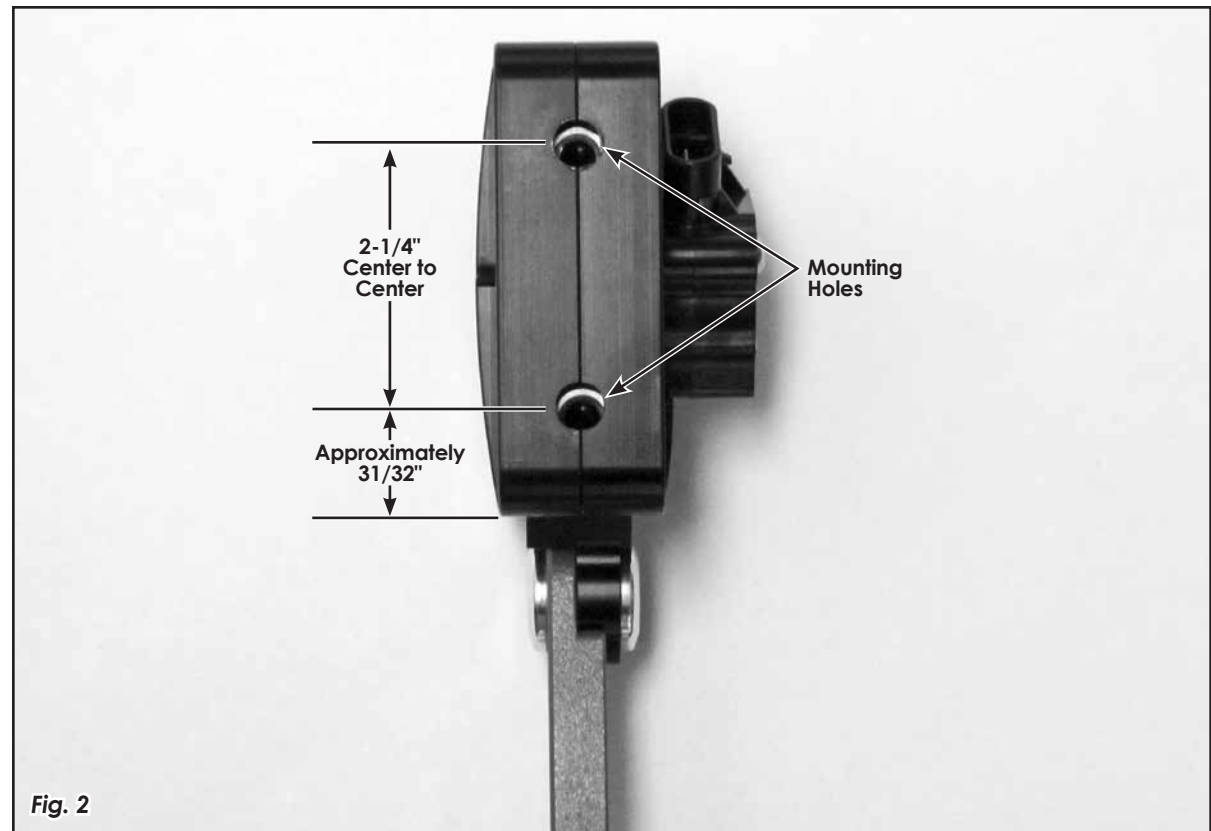

Fig. 2
- Step 3:** There are two mounting holes in the electronic throttle control module. The center of the lower mounting hole is approximately 31/32" above the bottom edge of the electronic throttle control module, and the mounting holes are 2-1/4" apart center-to-center. **Fig. 2**